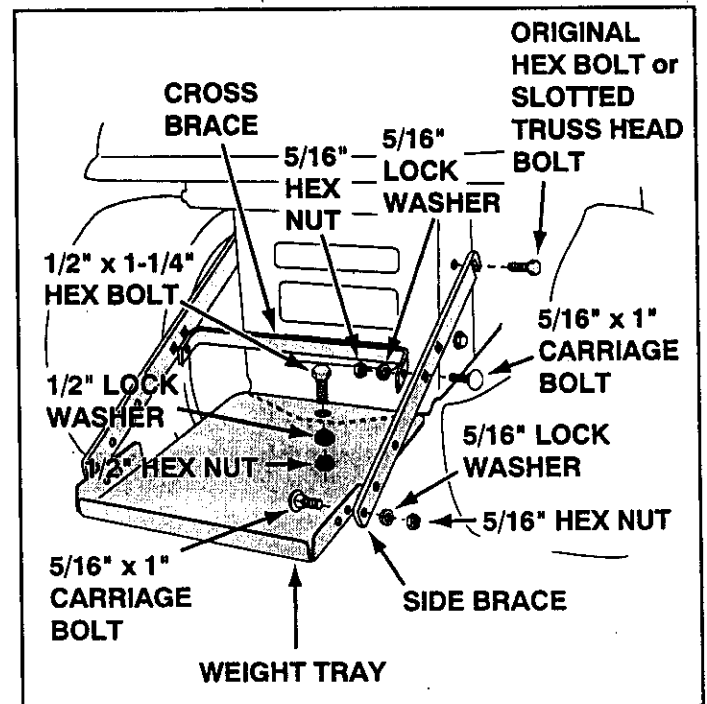

FIGURE 25
- Loosen the top hex bolt on each side of the tractor frame at the rear. Assemble the slots in the side braces down onto the loosened bolts. **Do not tighten yet.** See figure 25.
- Place the weight tray on top of the tractor hitch and fasten the side braces to it using two 5/16" x 1" carriage bolts, 5/16" lock washers and 5/16" hex nuts. **Do not tighten yet.** See figure 25.
- Fasten the weight tray to the tractor hitch using a 1/2" x 1-1/4" hex bolt, a 1/2" lock washer and a 1/2" hex nut. **Do not tighten yet.** See figure 25.
- Fasten the cross brace to the side braces using two 5/16" x 1" carriage bolts, 5/16" lock washers and 5/16" hex nuts. See figure 25. **Tighten all loose bolts at this time.**
- Assemble the weight tray to the side braces as instructed in figure 25 on page 13.